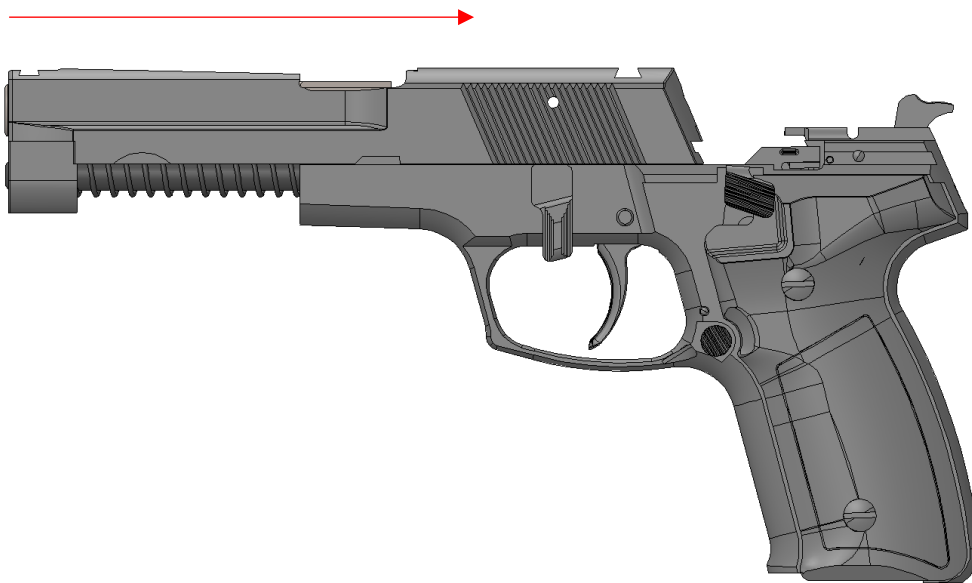

Figure 5: Installation of Slide onto Frame (1 of 3)
- Place the rear end of the slide rails onto the front end of the frame rails (Figure 5).